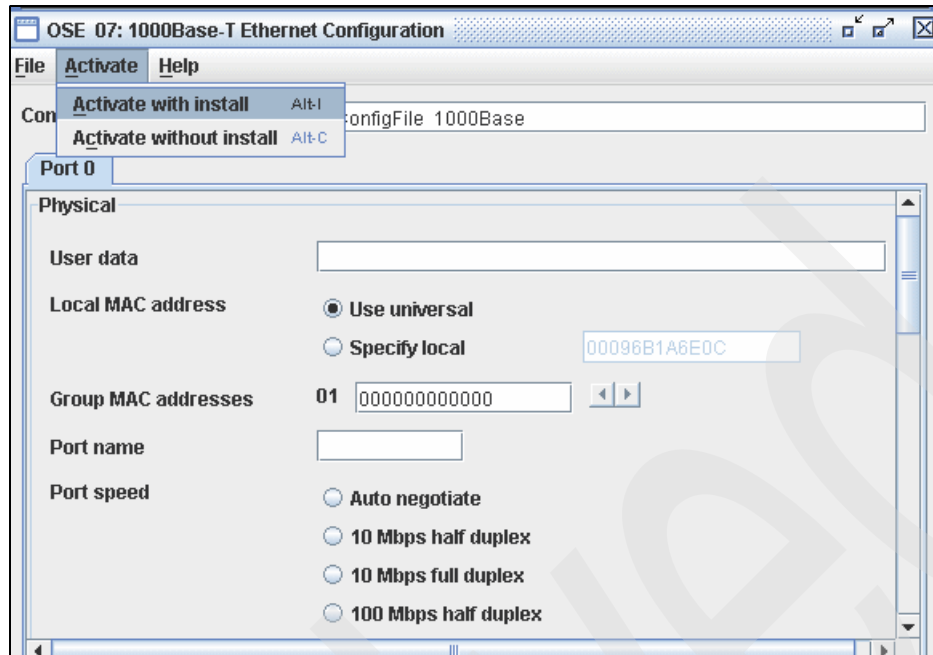

Figure 3-26 OSA/SF Workstation Interface - Install
5. Select **Activate** → **Activate with install** to restore the OSA feature configuration; see Figure 3-26 on page 89.